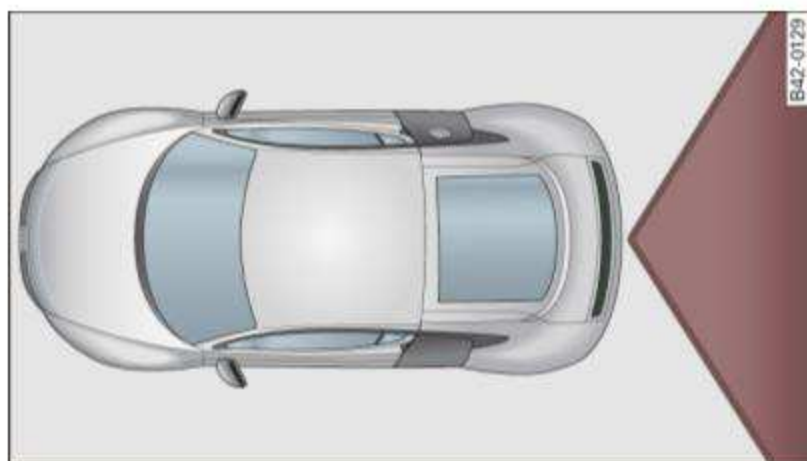
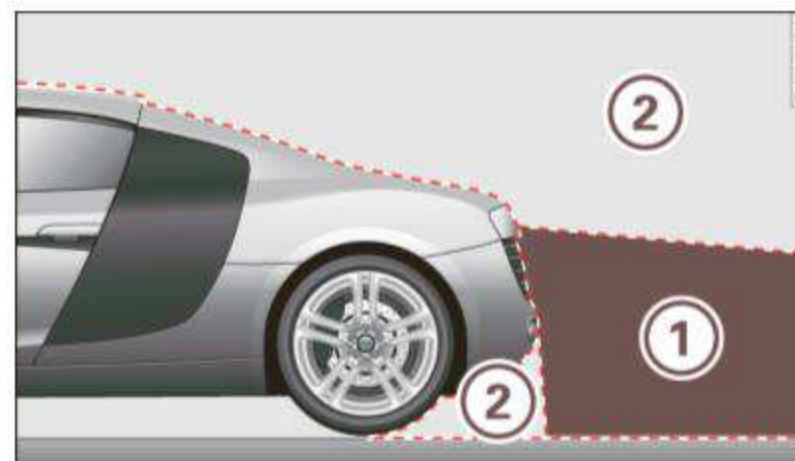

Fig. 75 View from top:
Fig. 76 Side view:
The rearview camera shows you the area behind your vehicle in the navigation system display. This area roughly corresponds to the area in ⇒ fig. 75 and ① ⇒ fig. 76. Orientation lines and colored surfaces are projected in the area shown, which can help you with parking and maneuvering. Objects that are located in an area that is not captured by the camera ② ⇒ fig. 76 and that are closer to the bumper will not appear on the navigation system display. ■
- The rearview camera does not show the entire area behind the vehicle ⇒ page 96, fig. 76. Watch out especially for small children and animals because the rearview camera cannot always detect them.
- **The rearview camera does not show the entire area behind the vehicle \Rightarrow *page 96*, fig. 76. Watch out especially for small children and animals because the rearview camera cannot always detect them.**